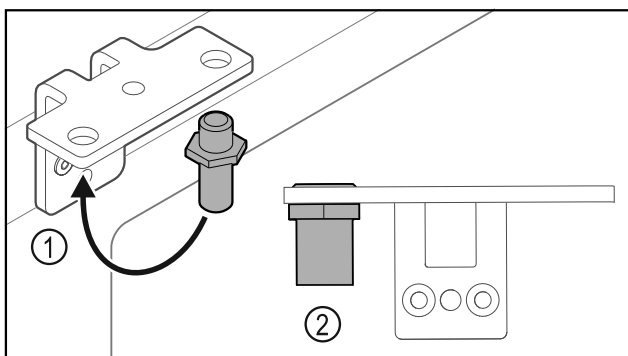

Fig. 31
- Put the pin back into the hinge Fig. 31 (1).
- Tighten the pin Fig. 31 (2) to a **torque of 12 Nm**.